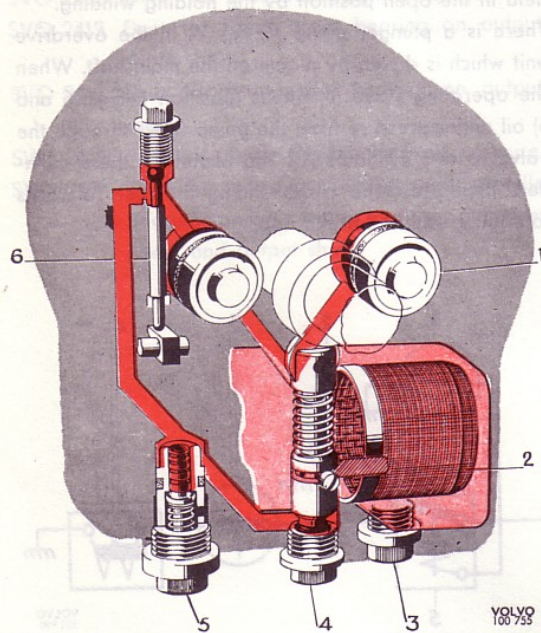
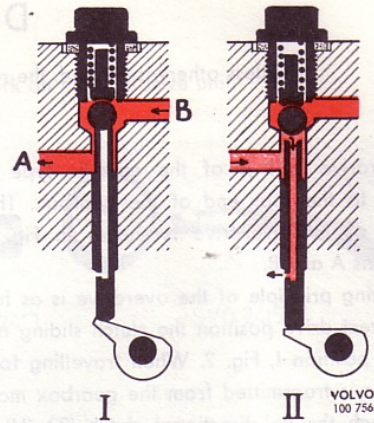

Fig. 4. Hydraulic system, late production
Fig. 5. Operating valve, early production
The solenoid has two windings, a heavy operating winding and a fine holding winding. The operating winding causes the solenoid armature to move in such a way that the operating valve in the overdrive opens. After the valve has opened, the current through the operating winding is cut off and the valve is then held in the open position by the holding winding. There is a plunger pump (4, Fig. 4) in the overdrive unit which is driven by a cam on the mainshaft. When the operating valve (6) opens (position I, Figs. 5 and 6) oil under pressure from the pump flows through the valve to two cylinders (1). The pistons in these cylinders then press the clutch sliding member forwards to engage with the brake ring.
On the early production overdrive unit, disengagement takes place by lowering of the valve rod, whereby the valve ball closes off the connection between the pump and cylinders. Instead the oilway in the valve rod is opened and oil from the cylinders is able to pass through and out into the gearbox housing, see II, Fig. 5. The clutch sliding member is then pressed backwards by the spring.
The oil strainer should be cleaned at every oil change. First drain the oil by removing the plug (3, Fig. 4, marked "Drain") under the oil strainer. Cleaning is then done as follows:
6. The pump and pump valve are fitted in the reverse order to removal. Check that the washer for the plug (4, Fig. 4) is in good condition. Fill up with oil.